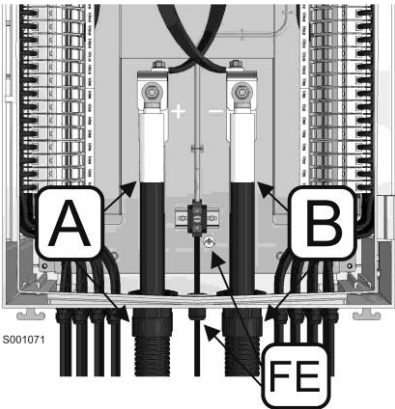

Figure 12: Position of the output cable tubing and functional earth cable gland
- Insert the power cables already provided with cables lugs and spiral sheath, inside the string box by letting the cable go through the coupling device of the protective spiral sheath (Figure 12).
- Insert the functional earth cable through the dedicated cable-gland (Figure 12).